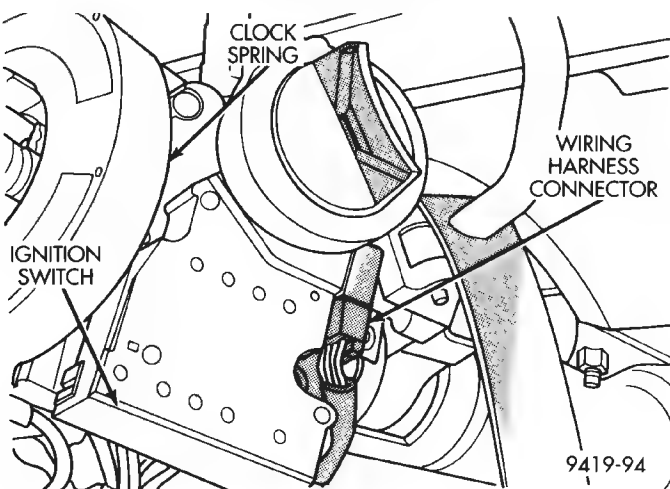

Fig. 19 Wiring Harness Connection For Key Light Switch
(6) Install wiring harness connector for key light switch connection, onto the ignition switch (Fig. 19).